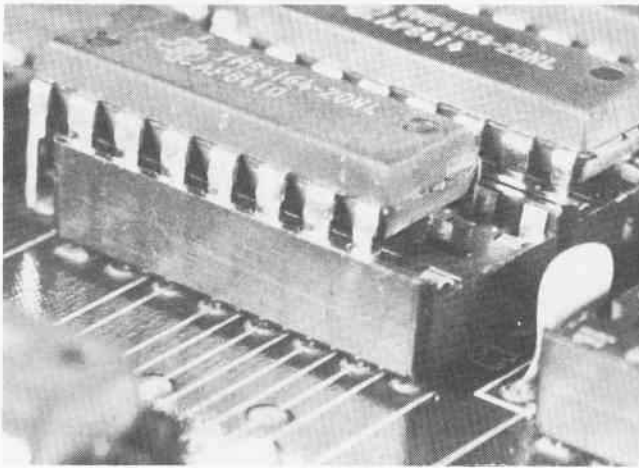

Fig. 3-7. Be careful not to offset the chip by one pin.
- Don't offset the chip over the socket by one pin, as shown in Fig. 3-7.